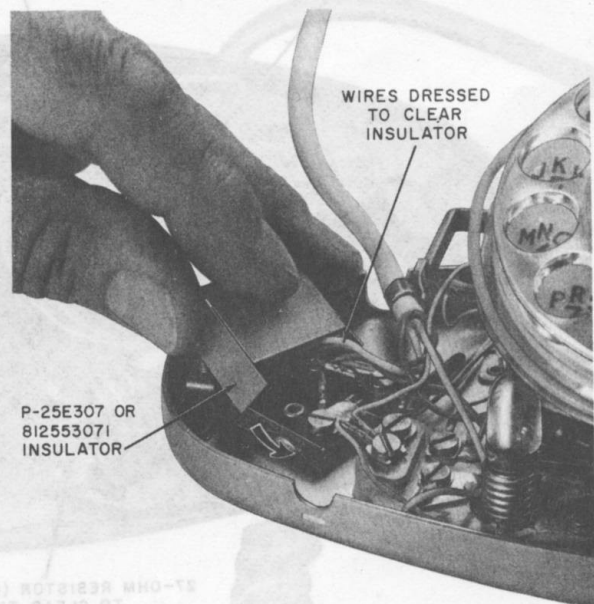

Fig. 10—Placing Inductor Over Terminal
- (1) Remove telephone set housing.
- (2) Dress all leads to prevent wiring from being caught between weight and base of set.
- (3) Install P-25E307 or 812553071 insulator as shown in Fig. 10.